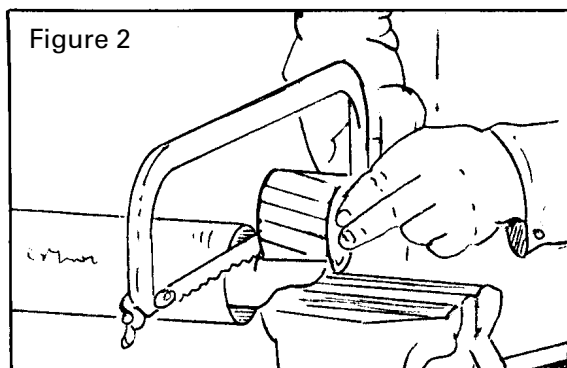

Figure 2
1. If driveline must be cut to a shorter length, clamp driveline in a well padded vise to prevent damage to the shield. Cut off shield where marked. Using cut-off section of shield as a guide, cut shaft the same amount. (Figure 2)